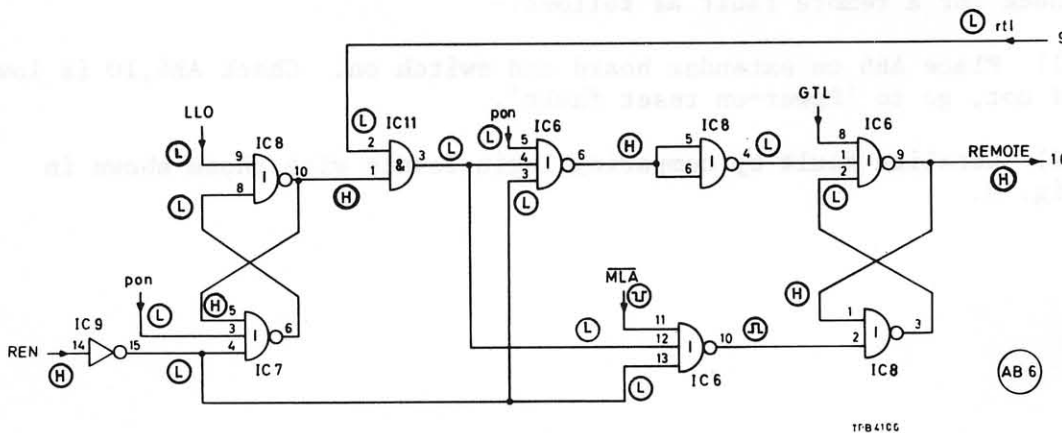

Fig. 4 'Remote/local fault' logic levels (pulses occur when EXECUTE pressed)
- (1) Place AB6 on extender board. Set REN and ATN to 0 and switch instrument on. If AB6,10 is low and REMOTE lamp is on, there is a fault with board AE2.
- (2) Check AB6,14. If high, there is a transceiver or interconnection fault.
- (3) Set REN and ATN to 1. Press EXECUTE while checking AB6 IC6 pin 11 for negative ML A pulse. If not present, there is probably a fault with IC1.
- (4) Localize fault by comparing logic levels with those given in Fig. 4.